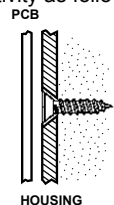

Figure 2:
6. The plastic housing can be screw mounted to doors and window frames or can be affixed directly onto glass windows using a strong double-sided non-cushioned adhesive tape. Mount the back cover and replace the PCB. Use two ISO 7050 (ST3.5 x 22) or similar countersunk screws so that the screw head will not touch the PCB – see Figure 2.